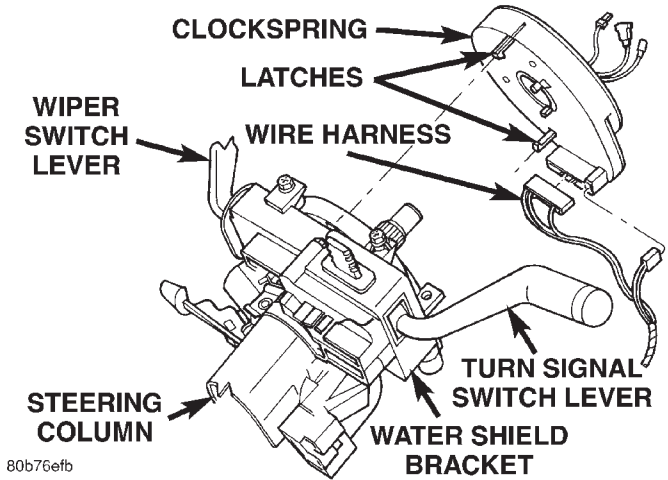

Fig. 21 Clockspring Remove/Install
(9) If the vehicle is equipped with a standard non-tilt steering column, loosen the two upper steering column mounting nuts. If the vehicle is equipped with the optional tilt steering column, move the tilt steering column to the fully lowered position.
(10) Remove both the upper and lower shrouds from the steering column.
(11) Disconnect the two instrument panel wire harness connectors from the lower clockspring connector receptacles (Fig. 21).